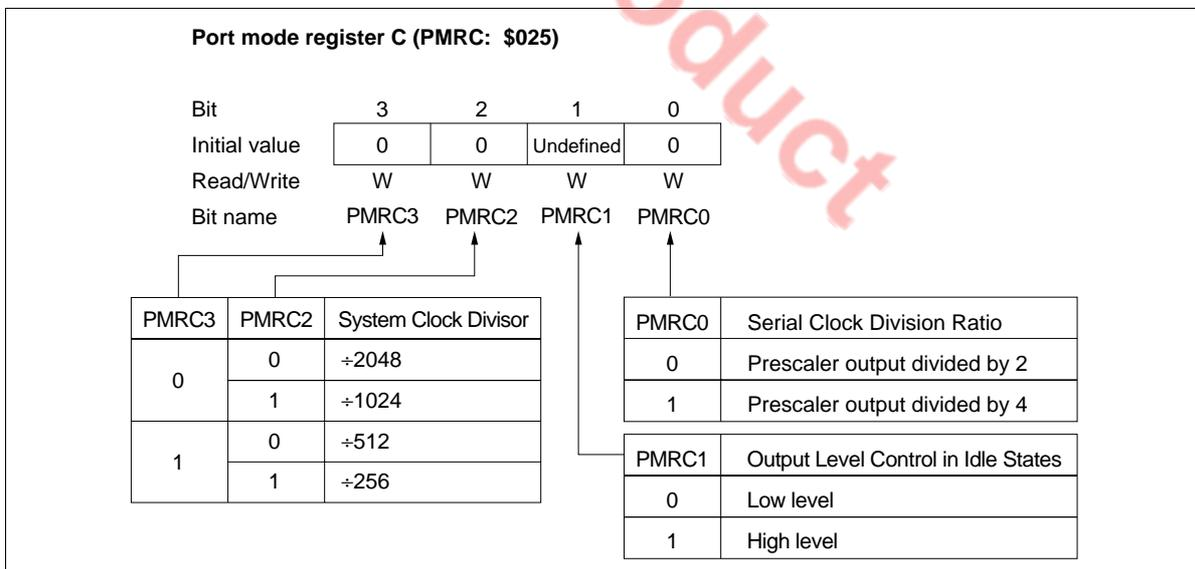

Figure 50 Port Mode Register C (PMRC)
**Port Mode Register C (PMRC: \$025):** Four-bit write-only register that selects the alarm frequencies as shown in figure 50. It is reset to \$0 by MCU reset.